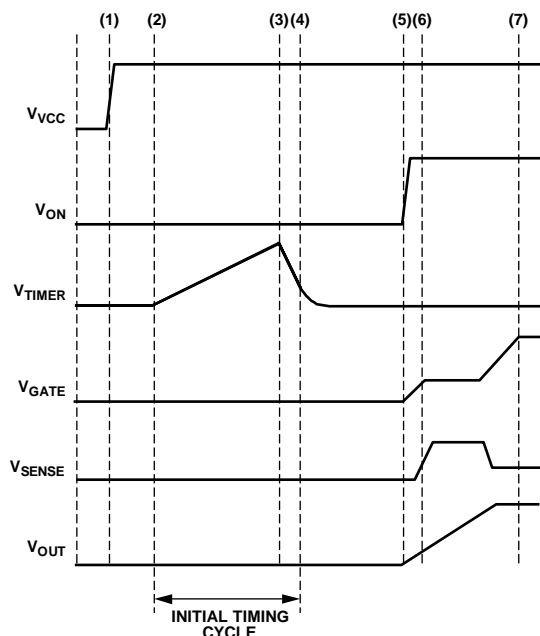

Figure 33. Startup (ON Asserts After Power Is Applied)
At this point, the FET gate is charged up with a 12.5 μA current source. At Time Point (5), the threshold voltage of the FET is reached, and the load current begins to flow. The FET is controlled to keep the sense voltage at 100 mV (this corresponds to a maximum load current level defined by the value of R_{SENSE}). At Time Point (6), V_{GATE} and V_{OUT} have reached their full potential, and the load current has settled to its nominal level. Figure 33 illustrates the situation where the ON pin is asserted after V_{CC} is applied.